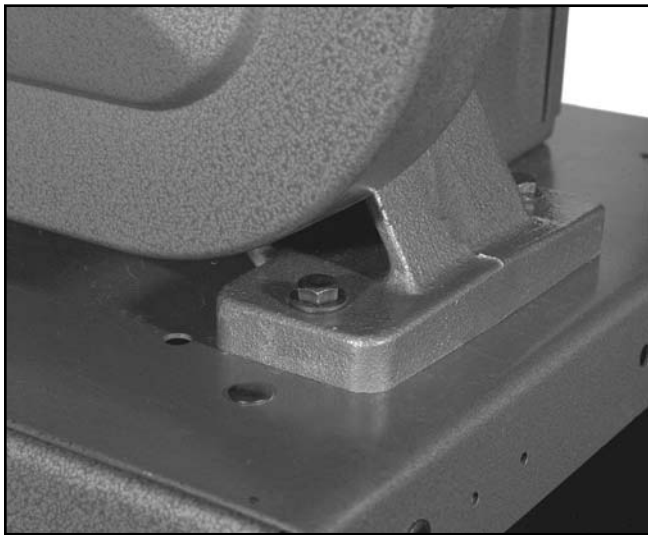

Figure 14. Loosely fasten to base.
2. Loosely secure the bandsaw base to the stand with the four (4) $\frac{5}{16}$ "-18 x 1 $\frac{1}{2}$ " hex bolts, nuts, and washers provided. **See Figure 14.**